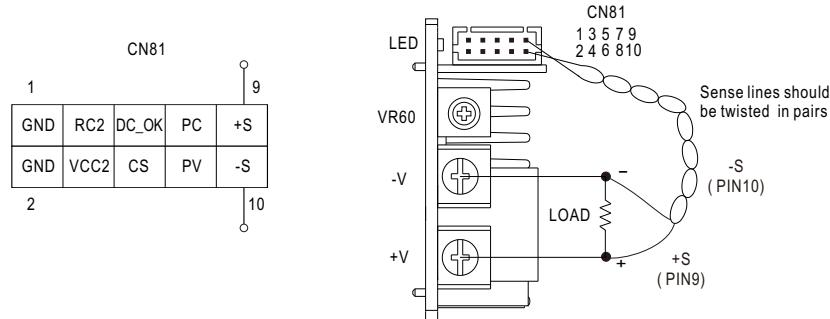

Figure 5-6 Connection diagram when using remote sense function
- ◎ When using this function, the sensing wires should either be twisted or shielded to prevent external noise interference (refer to Figure 5-6).